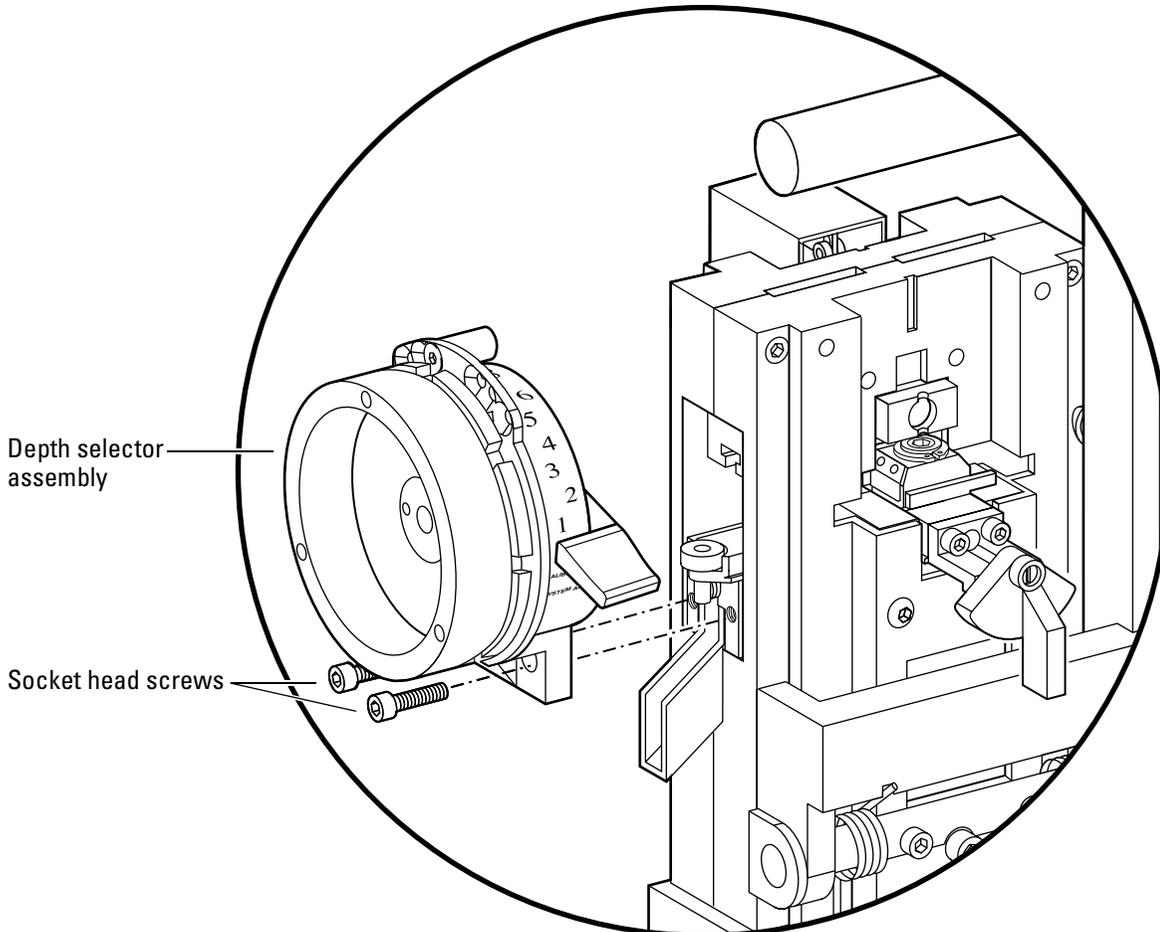

Figure 3.6 Reinstalling the depth selector
2. Align the two holes on the bottom of the depth selector assembly with the threaded holes on the combinator. See Figure 3.6.